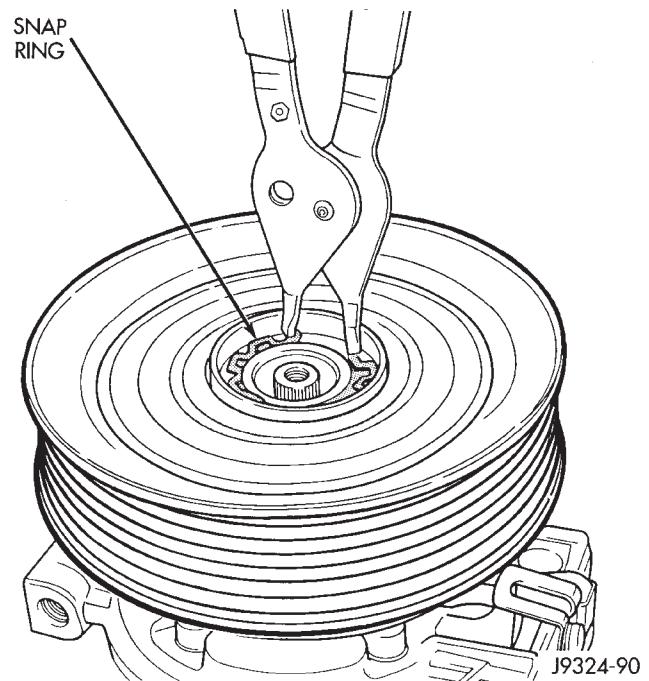

Fig. 3 Removing Pulley Snap Ring
- (4) Remove pulley retaining snap ring with Snap Ring Pliers (C-4574) and slide pulley assembly off of compressor (Fig. 3).
- (5) Remove coil wire clip screw and wire harness.